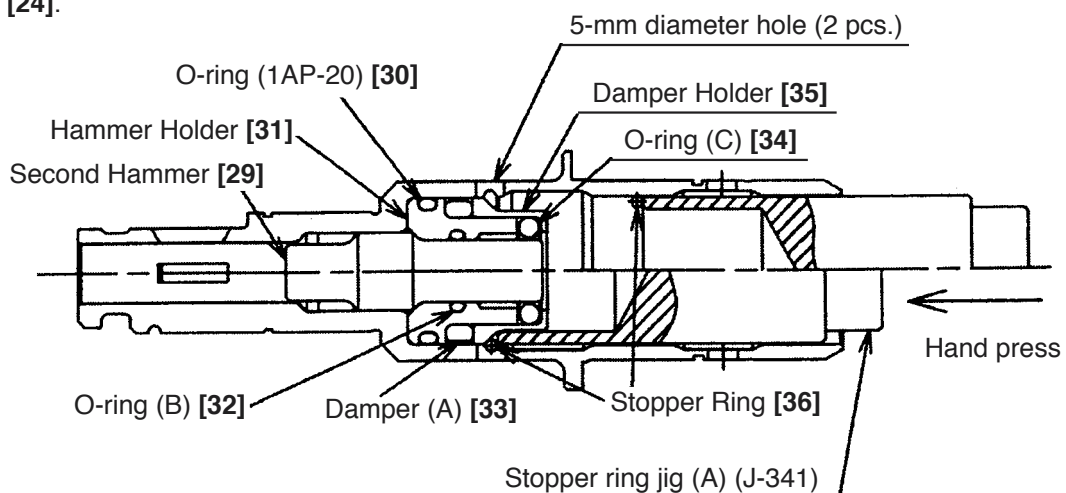

Fig. 22
(2) Mounting the Cylinder [24]
Mount the Second Hammer [29], O-ring (1AP-20) [30], Hammer Holder [31], O-ring (B) [32], Damper (A) [33], new O-ring (C) [34] and Damper Holder [35] in the Cylinder [24]. Push the new Stopper Ring [36] in the Cylinder [24] then push in the hole side of stopper ring jig (A) (J-341) on it as shown in Fig. 22. Push the upper end surface of stopper ring jig (A) (J-341) with a hand press to fit the Stopper Ring [36] in the groove of the inside diameter portion of the Cylinder [24]. Check that the Stopper Ring [36] is securely fitted in the groove of the inside diameter portion of the Cylinder [24] viewing from the 5-mm diameter hole (2 pcs.) on the Cylinder [24].